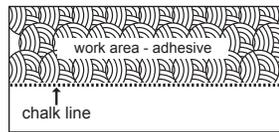

Figure 10a
STEP 4: Installing the Floor (Glue-Down Installations) (Figure 10a-10d)